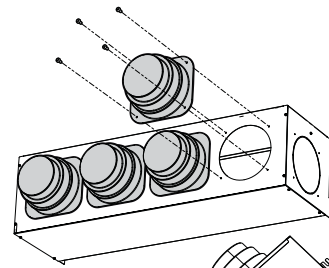

Fig.1
- Use the self-threading screws to fasten the flanges on the PM\_V plenum (fig.1).